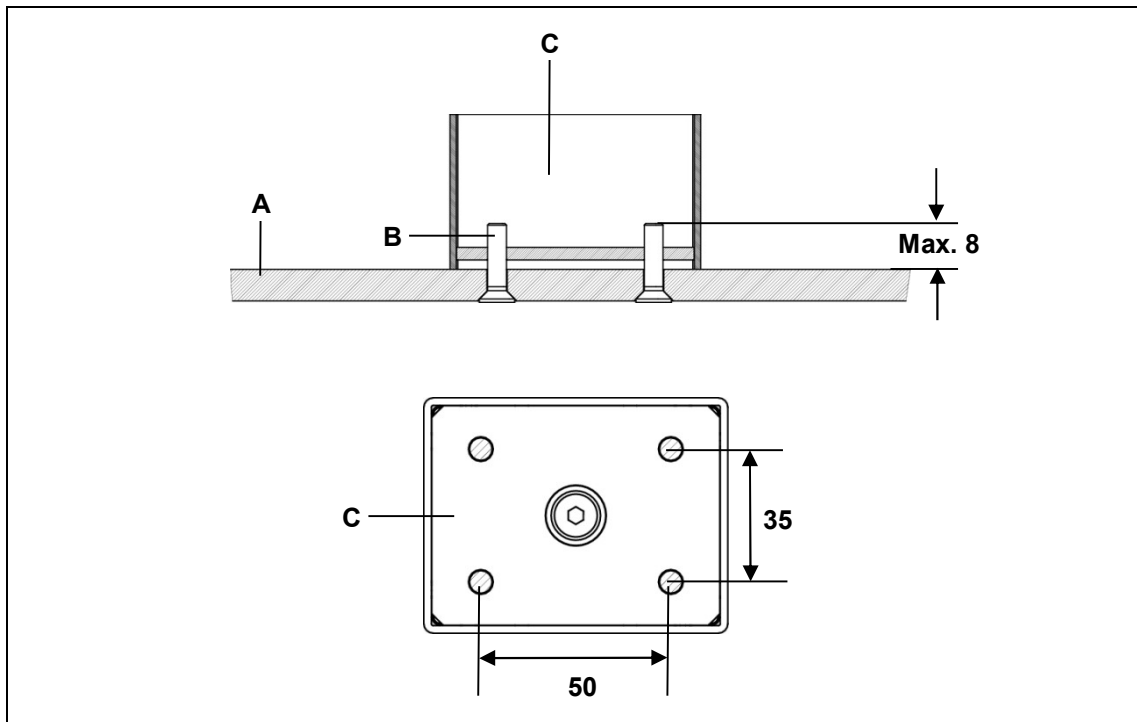
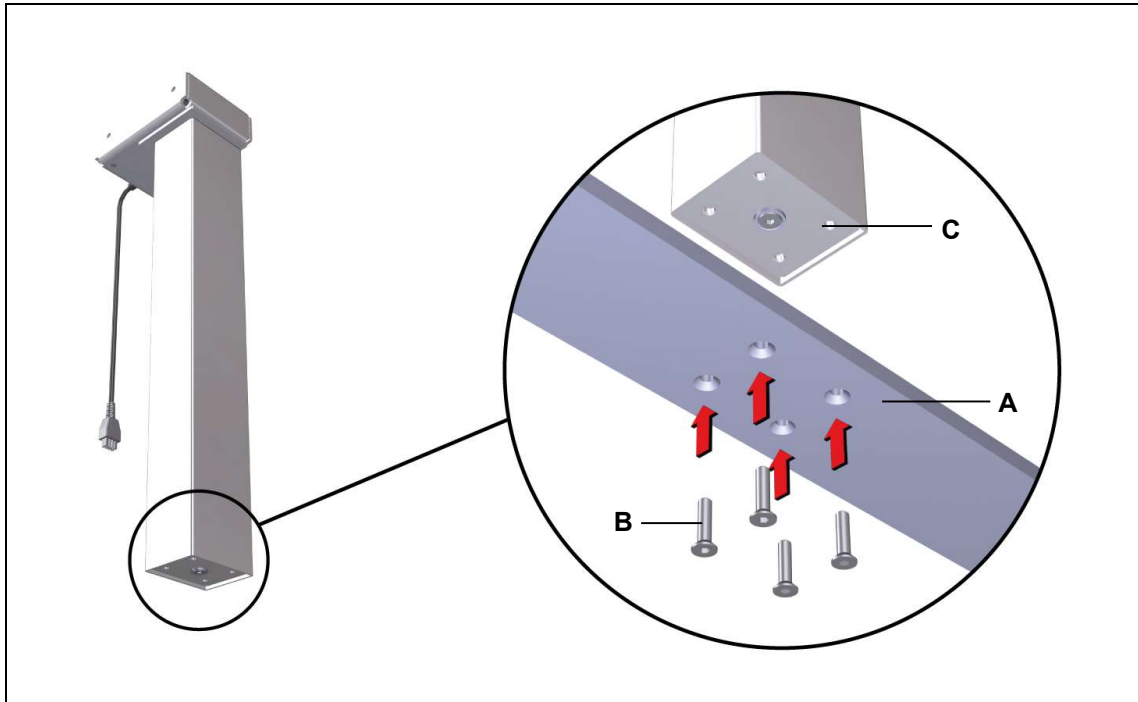

Figure 12 Example: Mounting the table base (version D): (in mm)
Figure 13 Example: Mounting the table base (version D)
- ▶ Use M6 countersunk screws (with strength grade 8.8), as shown in Figure 12. The tightening torque must not exceed 10 Nm.
- 1 Use four screws to attach the table base to the foot end of the lifting column, as shown in Figure 13 (the maximum tightening torque is 10 Nm). The mounting dimensions are shown in Figure 12.